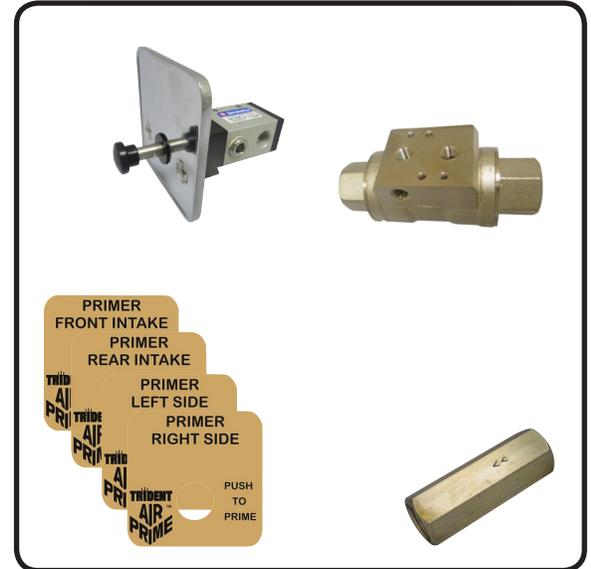

Figure 2
4. Gold labels are provided for LEFT, RIGHT, FRONT, REAR remote priming locations as shown in **Figure 2** on Page 1.